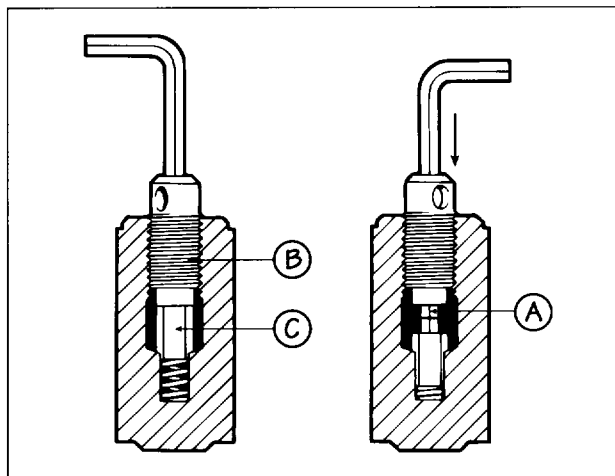

FIG. 36
3. Push down on the hex key wrench (A). This unlocks the adjusting screw (B) from the hex pin (C) (see Fig. 36).